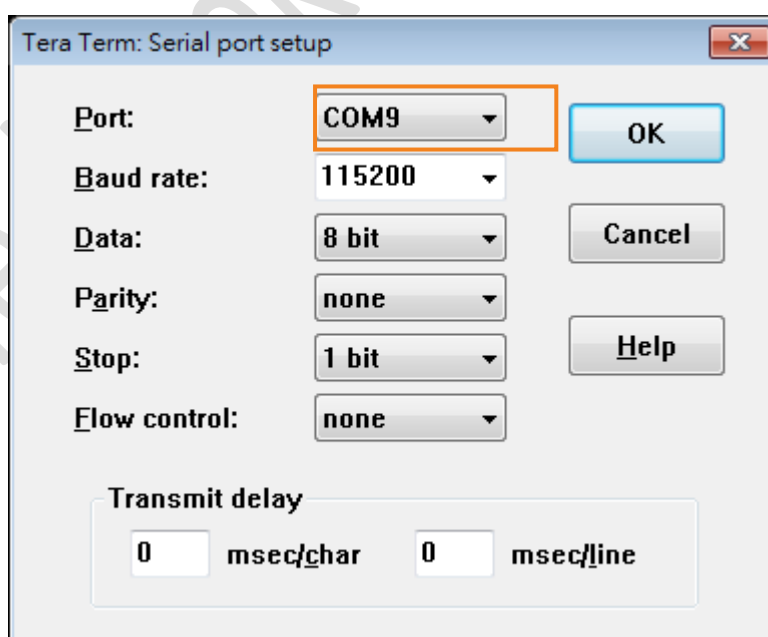

Figure 3. UART configurations in Tera Term terminal program
- a) Assign the COM port number found in 1) Set up the port. The rest of the parameters such as **Baud rate**, **Data**, **Parity**, **Stop** and **Flow control** should be defined, as shown in Figure 3.